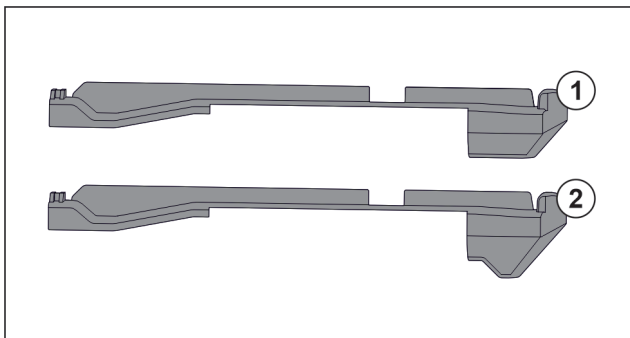

Fig. 150 Comparing attachments
There are two different attachments in the appliance. The attachment above the lowest drawer Fig. 150 (2) has a three-cornered edge. All other attachments Fig. 150 (1) have a straight edge.
- ▶ Fit attachment Fig. 150 (2) with the three-cornered edge above the lowest drawer.
- ▶ Fit attachment Fig. 150 (1) with straight edge in all other positions.